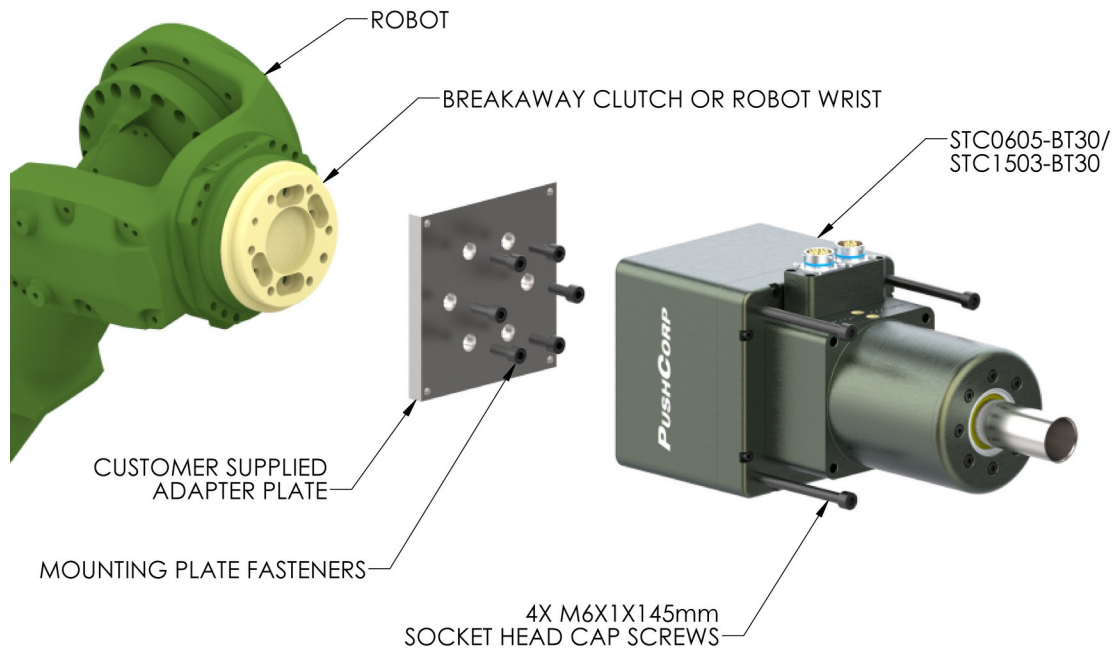

Figure 3: Spindle Motor Direct Mounting
To mount the motor, first attach the customer supplied Mounting Plate to the Robot Mounting Flange or to the Breakaway Clutch, per the manufacturer’s specifications. Once the Mounting Plate is secured, place the motor against the Mounting Plate and install (4) four, M6x1, Socket Head Cap Screws (length is dependent on motor SMxxxx = 25mm, STCxxxx-BT30 = 145mm). (See Figure 3) Tighten the fasteners to the torque specified in Section 4.0.